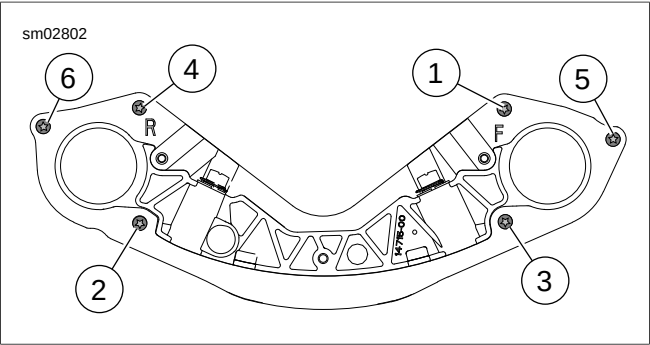

Figure 3-161. Balance Shaft Support Torque Sequence
5. See Figure 3-161. Apply LOCTITE 262 HIGH STRENGTH THREADLOCKER AND SEALANT (red) to threads of screws for balance shaft housing. Insert screws and tighten to 18-22 ft-lbs (24.4-29.8 Nm) in the sequence shown.